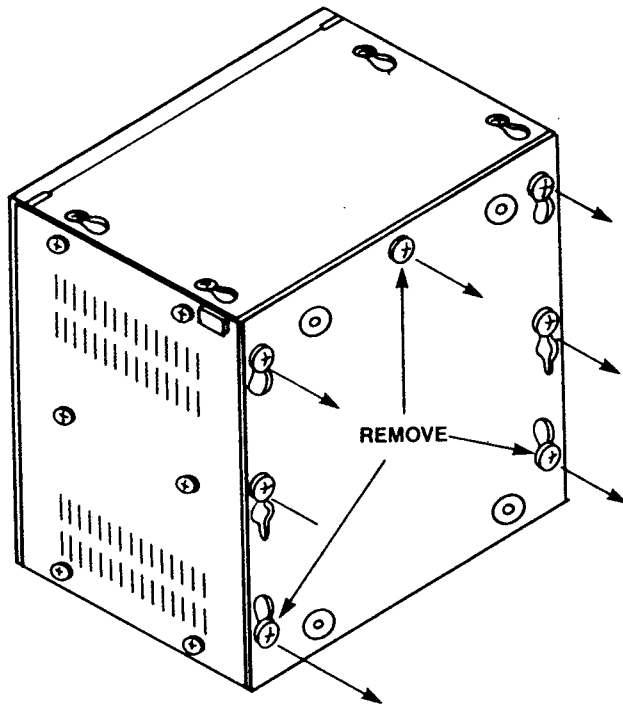

FIGURE 6—MKSU
- a) Loosen all seven screws securing the back cover (Figure 6).
- b) Remove and save the three screws indicated in Figure 6, lift the back cover off.